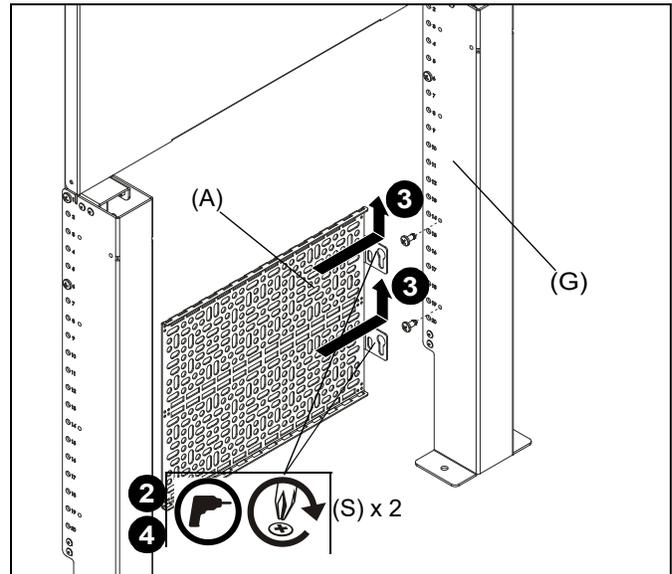

Figure 18
1. Install components to component storage panel (A) using appropriate hardware (not included) for each component. (See Figure 18)
2. Loosely install two 1/4-20 x 1/2" Phillips pan machine screws (S) to either bottom upright (G) at desired mounting location. (See Figure 18)
3. Use teardrop mounting holes to install component storage panel (A) onto installed screws (S). (See Figure 18)
4. Use # 3 drill bit (V) to tighten screws (S) to secure panel (A) to upright (G). (See Figure 18)